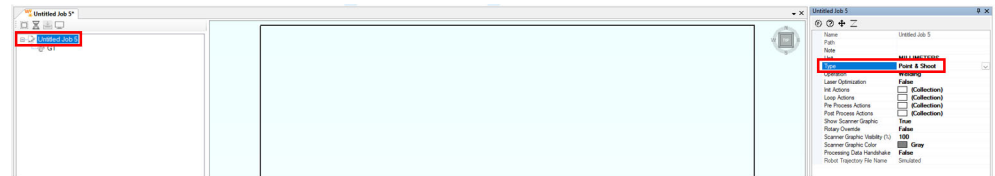

Figure 333: Point & Shoot Job Type
2. Select the Job Name in the Job Tree. Ensure the job Type is set to Point & Shoot. See Figure 333 (below).